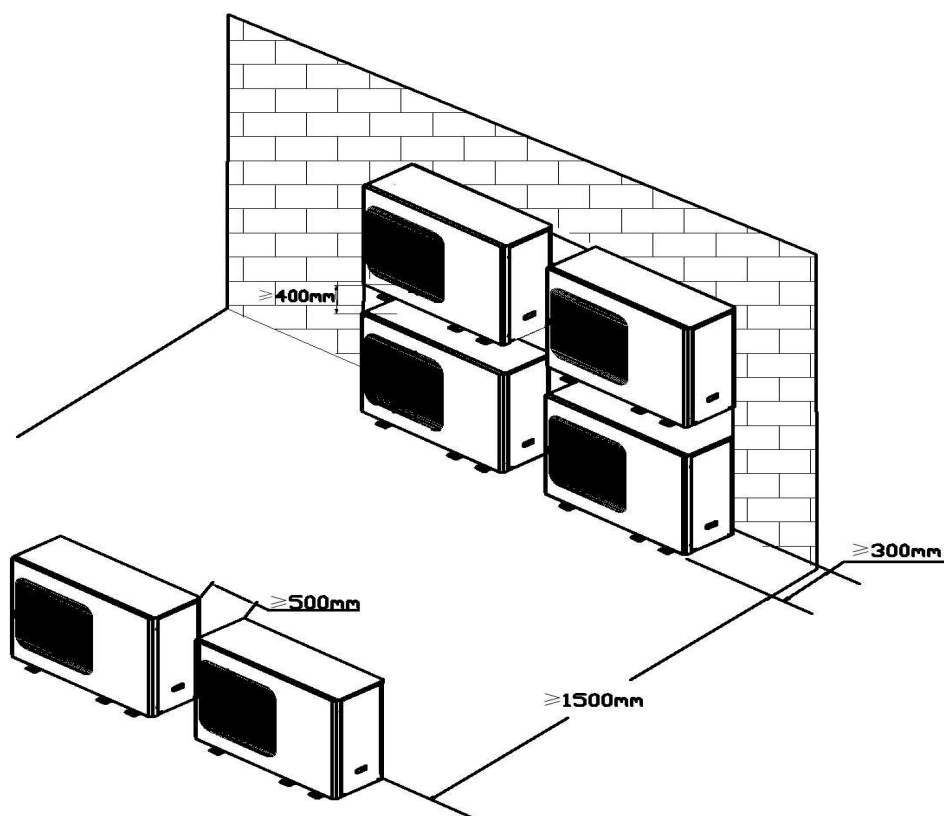

Figure 4-10
1. In case of stacked installation (See Figure 4-10 below for details).